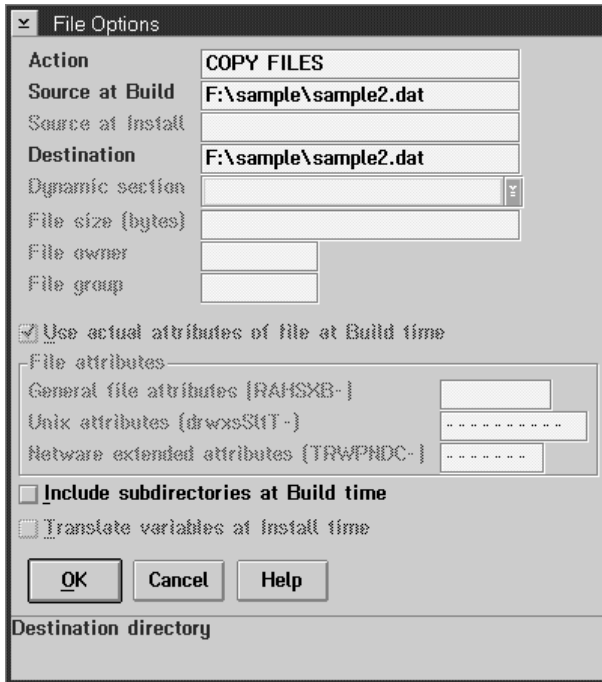

Figure 62. File options window
- 13 You may need to change the destination of the files that will be installed from **F** to **C**. To make this change, select the **sample1.dat** file in the Files in software object container and choose the **Options** push button. The File Options window is displayed, as shown in Figure 62 on page 158.